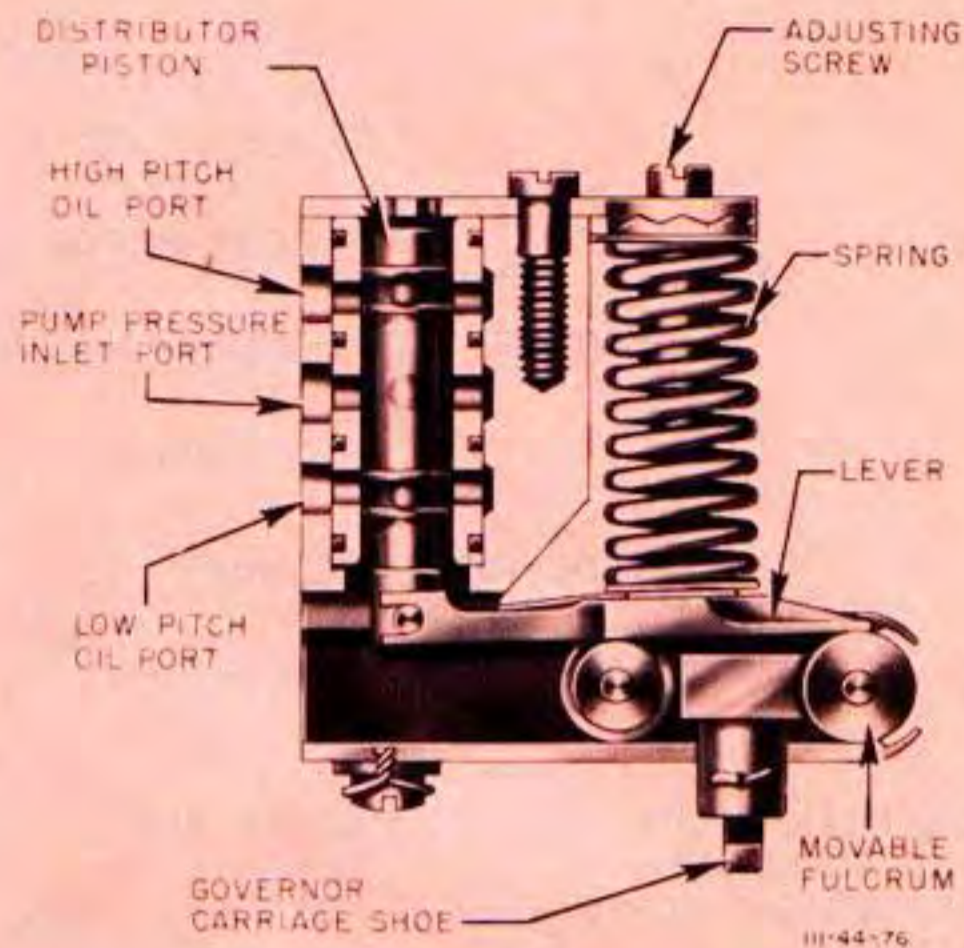

Figure 236D—Aeroproducts Propeller Governor
a. DESCRIPTION.—The governor consists of a steel sleeved aluminum body and a steel piston hinged to a lever. (See figure 236D.) The piston moves within the sleeve to receive and distribute oil under pressure through ports machined in the sleeve. The underside of the steel lever bears on a steel fulcrum roller, while a spring load bears on the upper side of the lever. An adjustment screw on the outer end of the spring provides adjustment of the governor spring tension for maximum controlling rpm. The fulcrum roller is mounted onto a carriage that slides on steel guideways. A curved steel shoe which fits in the groove of the control ring extends from the underside of the carriage.